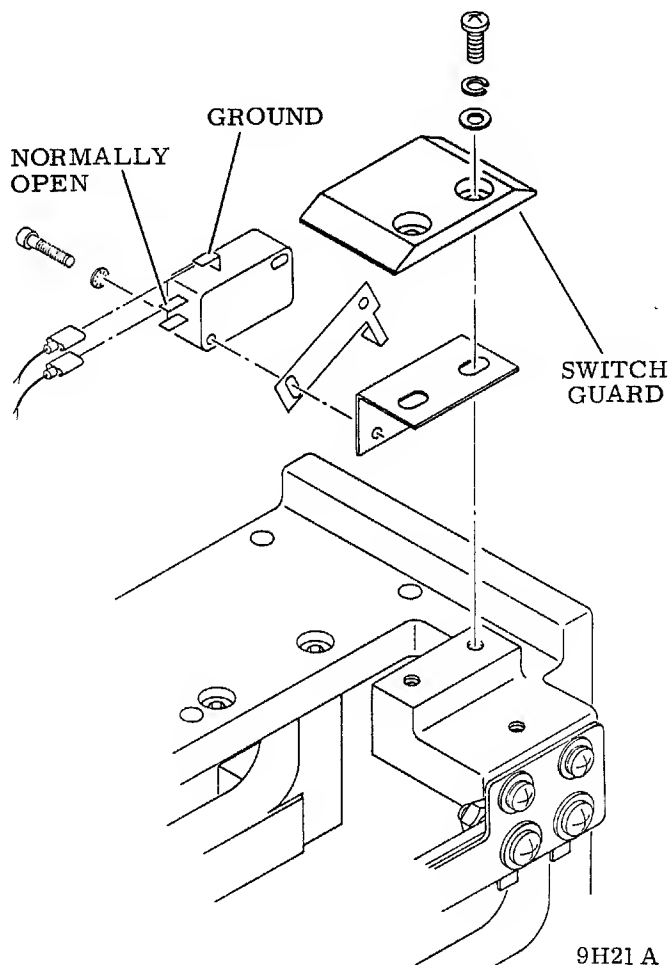

Figure 2-31. Heads Loaded Switch Replacement
2. Connect multimeter (set to RX1 scale) between ground contact and normally open contact as shown in figure 2-31. With carriage fully retracted, multimeter should indicate zero ohms.